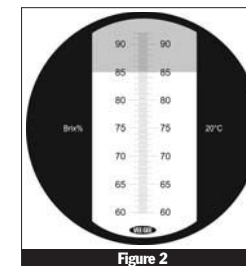
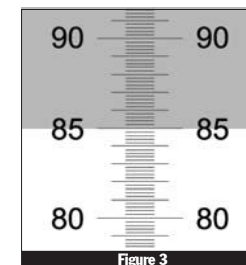

Figure 2
Figure 3
- 5 When the refractometer scale is viewed through the eyepiece, the upper field of view will be seen as blue and the lower field will be seen as white (Figure 2). Confirm that the boundary line crosses the scale at "85" (or the value of the liquid standard being used) (Figure 3).